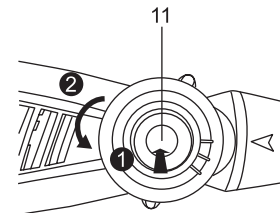

Fig. 25
1. Place the product on a stable, level surface with the angle adjusting button (11) facing upward. We recommend laying a non-flammable sheet under the product.
2. Press the angle adjusting button (11), meanwhile rotate the working head anticlockwise to the required working angle. Please note to align the mark \triangleleft with the scale around the angle adjusting button (11); and please make sure you hear a “click” when do this adjustment or the angle adjusting button (11) bounces back, or else the working head is not locked well. (Fig. 25,26)